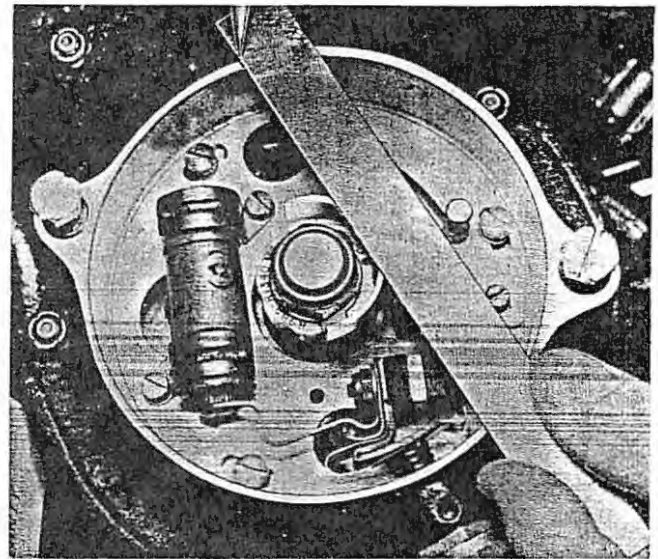

Figure 5-42. Magneto Timing Marks
- If the straightedge aligns with the stationary timing mark ($\pm 1/64$ -inch) internal timing of the magneto is correct. (See figure 5-42.)